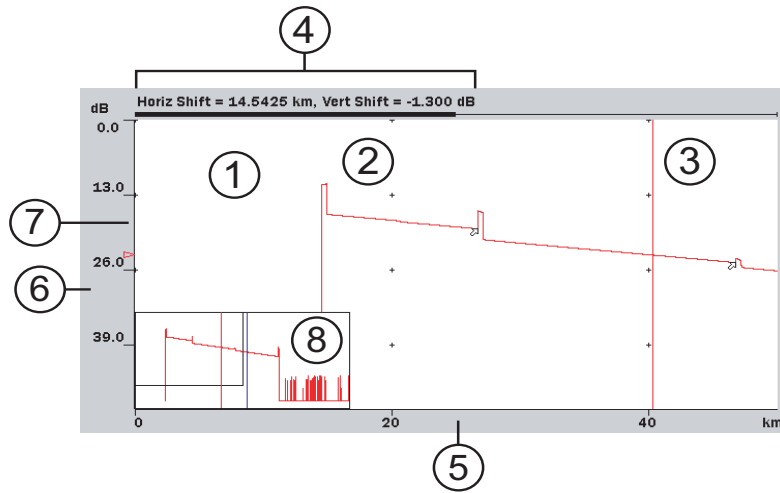

Figure 5-12: Trace Graph
The Trace Waveform (or Trace) is the downward sloping line going from left to right that connects the data points collected during a test. See item 1 in Figure 5-12 on page 5-23.
The cursors (see items 2 and 3 in Figure 5-12 on page 5-23) are the two vertical lines that extend from the top to the bottom of the trace graph. The cursors allow you to extract power and distance information from the trace graph. The active cursor is displayed in red and the inactive cursor is displayed in blue.
These values (see item 4 in Figure 5-12 on page 5-23) are only displayed when some type of shift is in use.
The vertical axis scale (see item 6 in Figure 5-12 on page 5-23) is located on the left side of the trace graph and is expressed in dBs, while the horizontal axis scale (see item 5 in Figure 5-12) is located at the bottom of the trace graph and is expressed in the distance unit as set on the Preferences screen. See “Distance Display Units” on page 5-4 for details.
The dB level indicator (see item 7 in Figure 5-12 on page 5-23) denotes the intersection of the active cursor and the trace level.